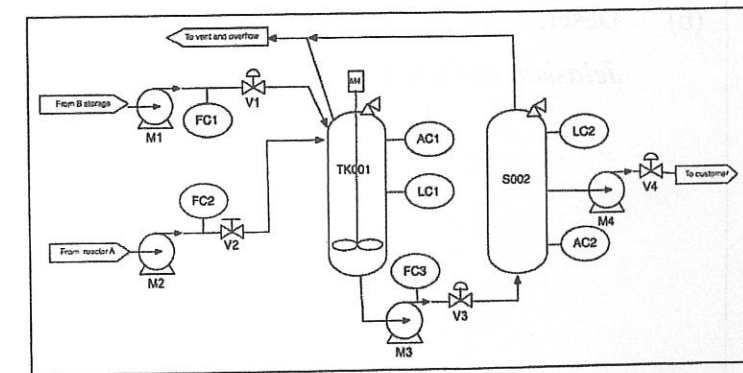

Figure A10/Rajah A10
10. Figure A10 below refers to: